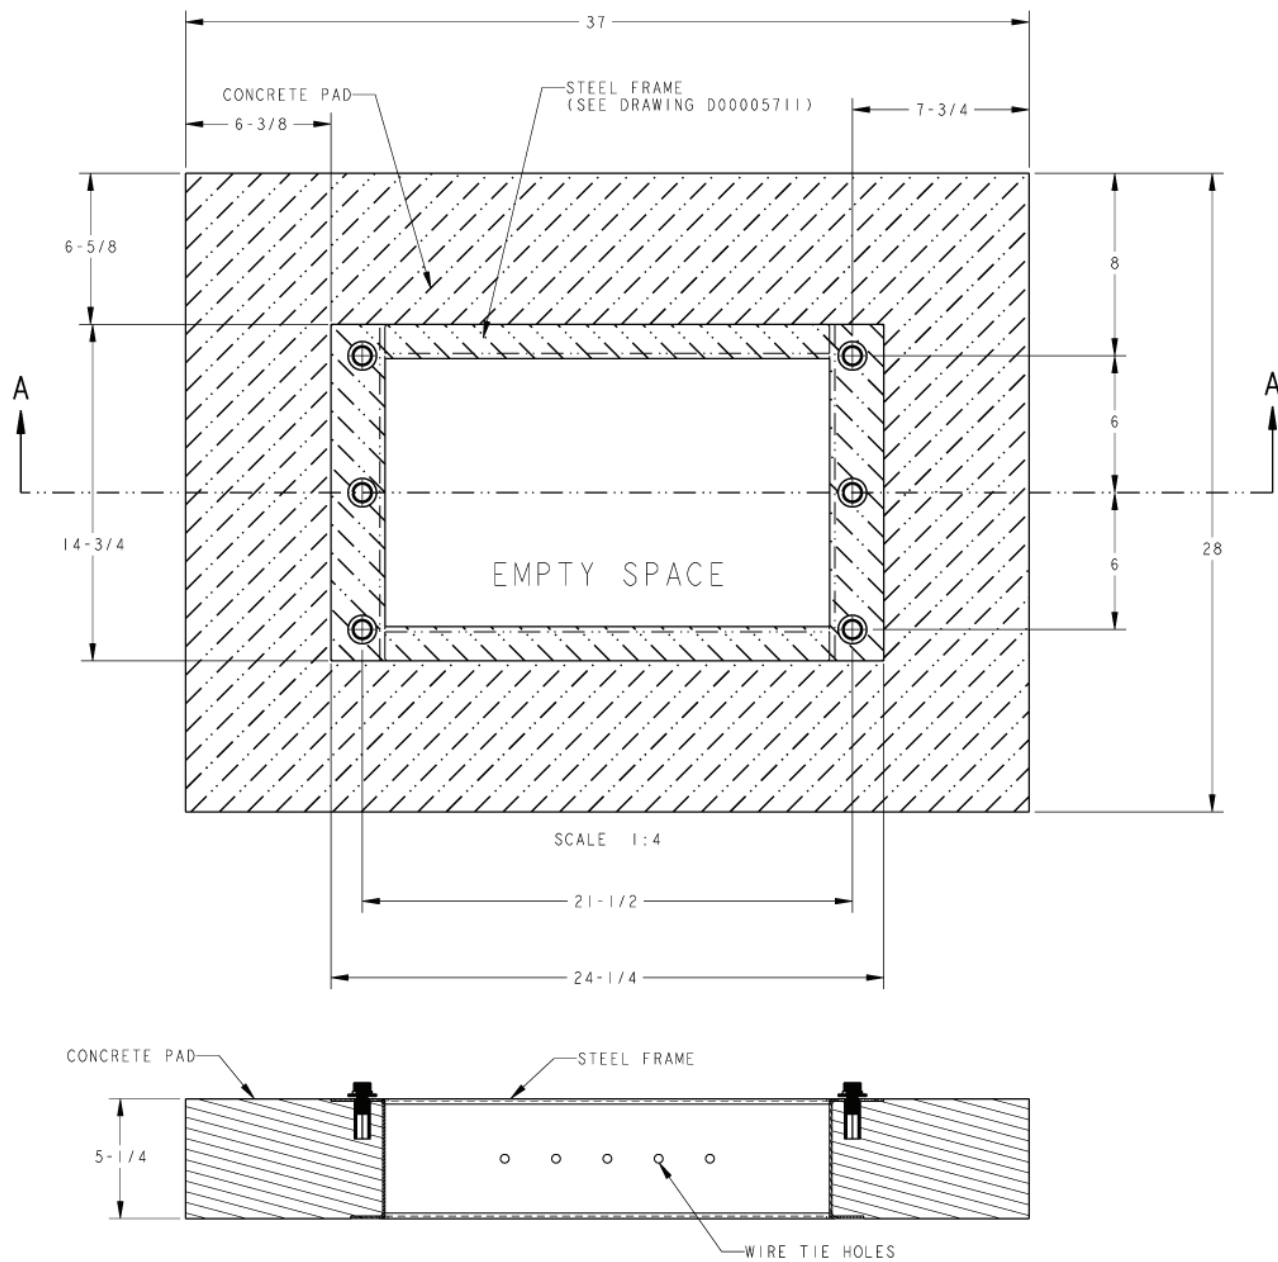

Fig. 3
2. Position the CSX-3 288/432 or 864 mounting cabinet frame. When installed, the top surface of the template must be flush and level with the top of the concrete pad. Use temporary framing to keep the top surface of the pad template level with the top of the concrete pad. Refer to Figures 3 and 4 on the previous page for relevant dimension information.